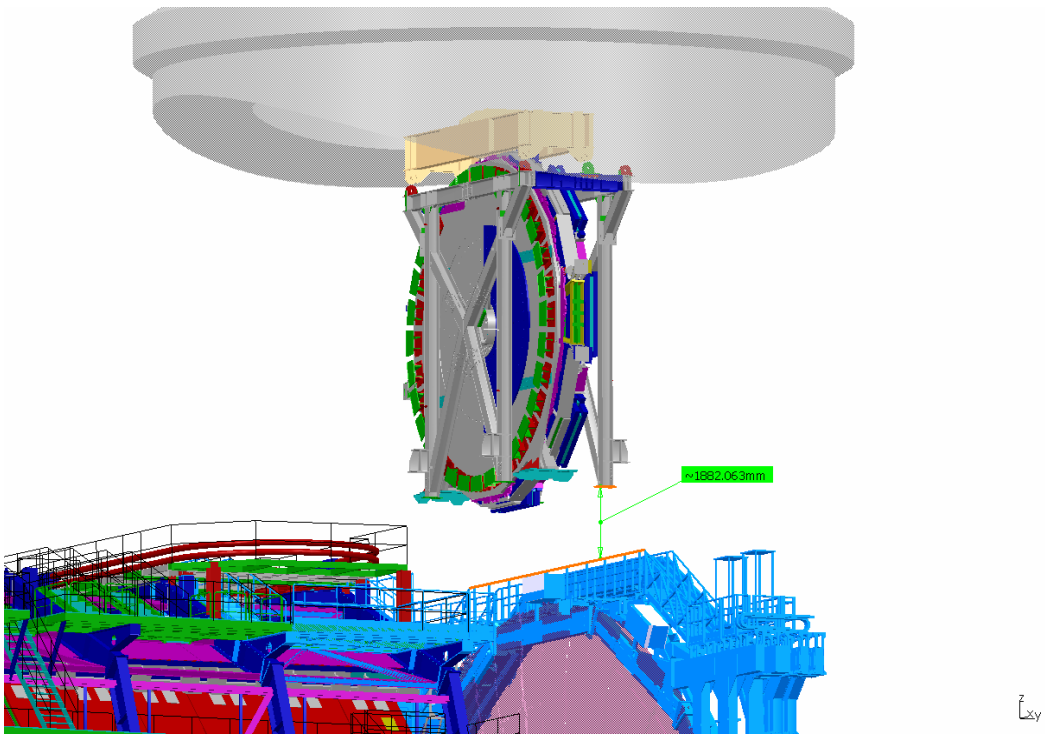

Figure 2 End point of Segment#1
- and positioning on  $X=298\text{mm}$  to avoid CLASH with ECT on segment#3. Movement is going on along the Z axis and finished on the altitude = 61.2m of SW+JD central point. Further vertical movement of SW+JD is restricted by the handrails of big wheel supports (figure 2). Distance between SW+JD and handrails is  $\sim 1'900\text{mm}$ .